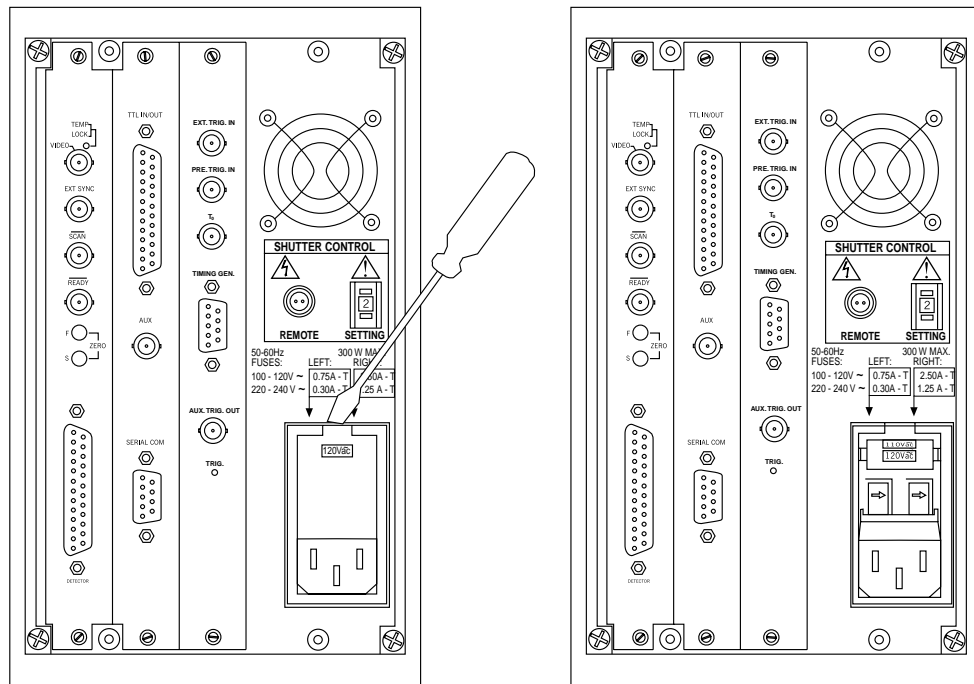

Figure 1. Power Input Module
*Each setting actually defines a range and you should select the setting that is closest to the actual line voltage.* The fuse and power requirements are printed on the panel above the power module. As shown in Figure 1, the Power Module contains two fuses. The two fuses are of different values and both change according to the value of the selected line voltage as indicated on the back panel. The correct fuses for the country where the ST-133 or ST-133A is to be shipped are installed at the factory.
1. Take a flat blade screwdriver, place the flat side parallel to the back of the controller and pointing downward behind the small tab at the top of the power module, and twist the screwdriver slowly but firmly to pop the module open. *See Figure 1.*